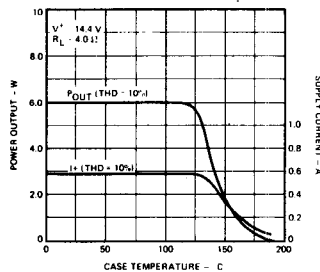

Fig. 16
2. The heat sink can have a smaller factor of safety compared with that of a conventional circuit. In case of too high a junction temperature, power output, power dissipation and the supply current decrease (Figure 16) thus protecting the device.